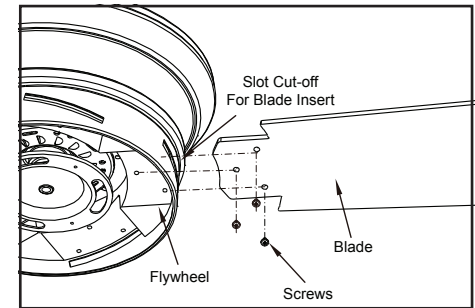

Figure 11
1. Insert the blade through the slot cut-off in the center flywheel, align the three screw holes in the blade with the screw holes in the flywheel and secure with the screws provided. (Figure 11)